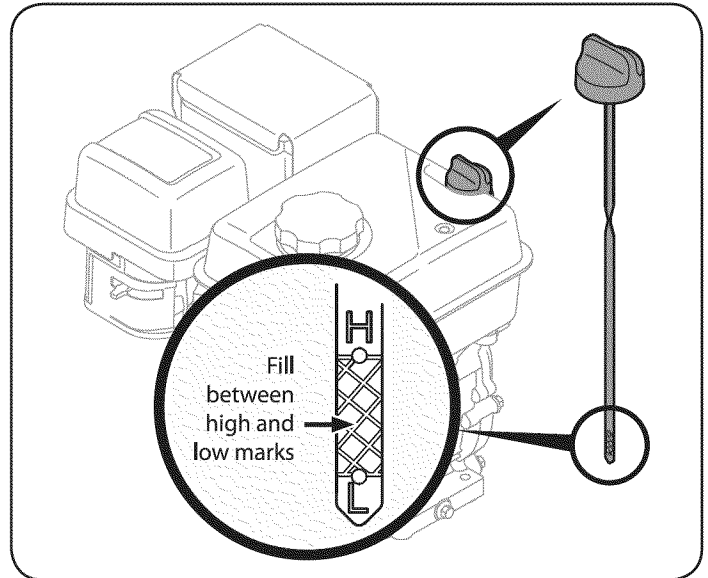

Figure 8
2. Check the oil level making certain not to rub the dipstick along the inside walls of the oil fill tube. This would result in a false dipstick reading. Refill to between the HIGH (H) and LOW (L) marks on the dipstick, if necessary. Replace the dipstick and tighten. See Figure 8.
3. Check the fluid level using the dipstick. See Figure 8. Do not overfill.